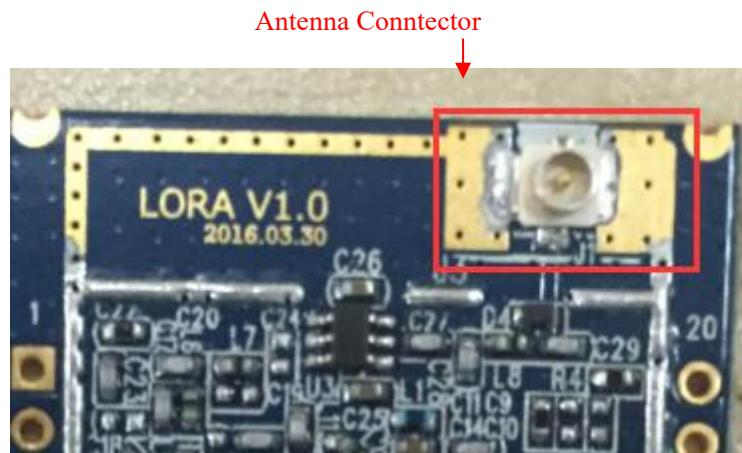

Figure 2-2 Antenna Connector
1) The Antenna connector part number: MM9329-2700/Murata, as the Figure 2-2: